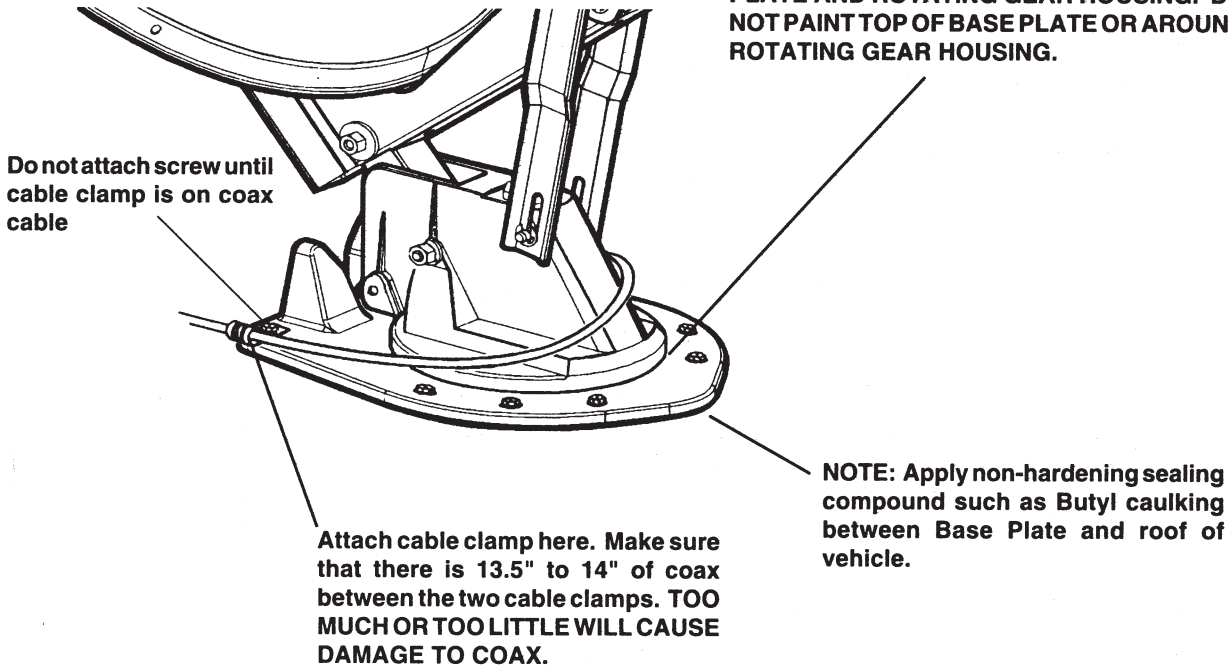

FIGURE 3
STEP 5: Mount antenna and lift on roof in travel position. Apply a liberal amount of approved nonhardening sealing compound on bottom of base plate and roof area around hole. See Figure 3. Secure base plate with screws provided, except for screw indicated in Figure 3.
STEP 7: Attach cable clamp to baseplate as shown in Figure 3, use 7/16" flat washer between screw and strain relief. Apply sealing compound over mounting screw heads.